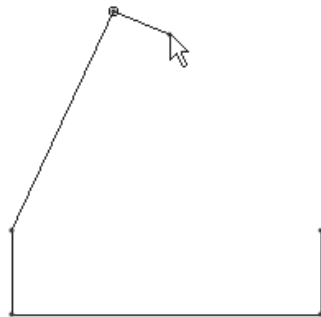

Figure 2-23 Partial sketch with left inclined line
- Draw lines using the line tool, refer to Figures 2-23 and 2-24.
8. Move the cursor to size the line and specify the endpoint of the left inclined line, as shown in Figure 2-23.